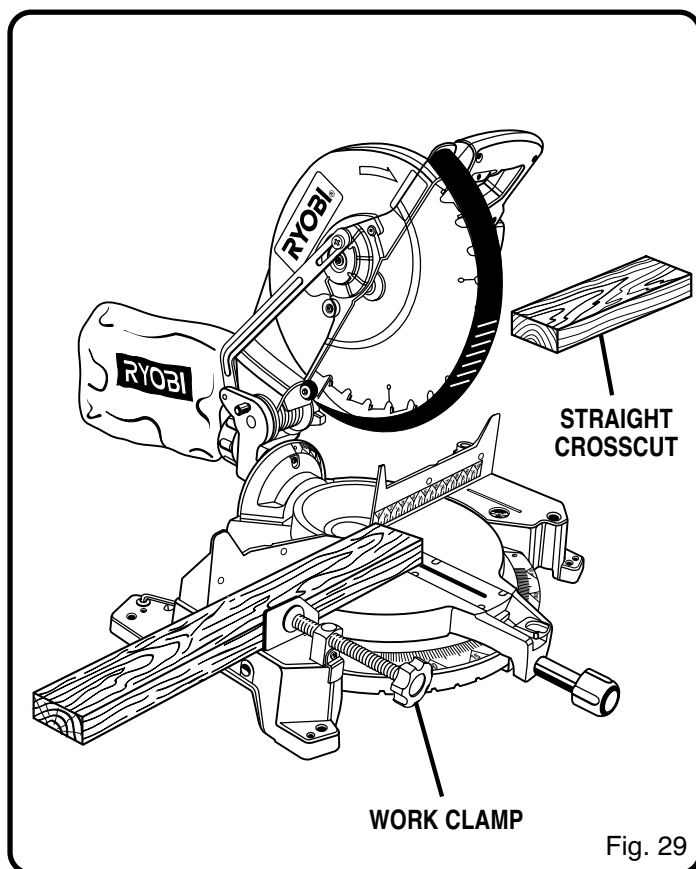

Fig. 29
See Figure 29.
- Grasp the stock firmly with one hand and secure it against the fence. Use the optional work clamp or a C-clamp to secure the workpiece when possible. See Figure 29.
- Slowly lower the blade into and through the workpiece. See Figure 29.